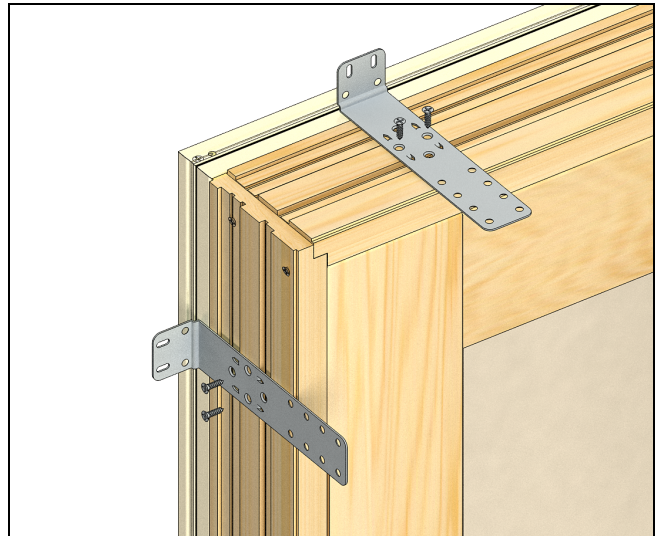

Figure 8
3. If you are installing your door with structural brackets or masonry clips, apply to the door frame once you are ready to place it in the opening permanently. Follow the instructions included with the brackets. See Figure 8. On IZ3 units place the structural brackets 6" from each corner and a maximum of 15" apart, with a minimum of